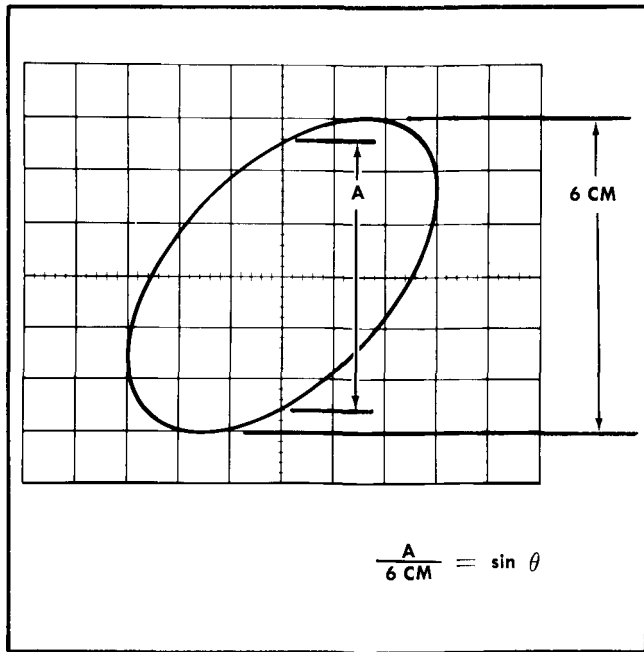

Fig. 5-6. X-Y method of calculating phase difference (θ) of two sine waves.
g. Check—Trace separation at the center (measured on the graticule center Vertical line) must be not more than 1 mm (corresponding to 1°). See Fig. 5-6 for method of measuring phase difference.